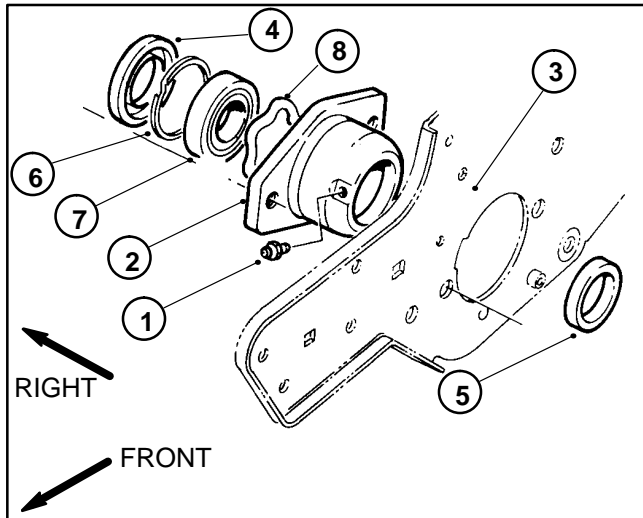

Figure 32
5. Remove grease fittings from both bearing housings. Mark bearing housing (RH) for reassembly purposes (Fig. 32 and 33).
7. Pull both bearing housings from the frame and reel (Fig. 32 and 33). Remove the reel from the mower.
- A. Remove bearing seal, retaining ring, bearing, and wave washer from the bearing housing (RH). Discard wave washer (Fig. 32).
2. Reassemble bearing housing (RH) components (Fig. 32).
5. Attach bearing housing (RH) through the frame onto the reel shaft (Fig. 32).
8. Reinstall grease fittings to both bearing housings. Lubricate both housings with No. 2 multipurpose lithium base grease (Fig. 32 and 33).